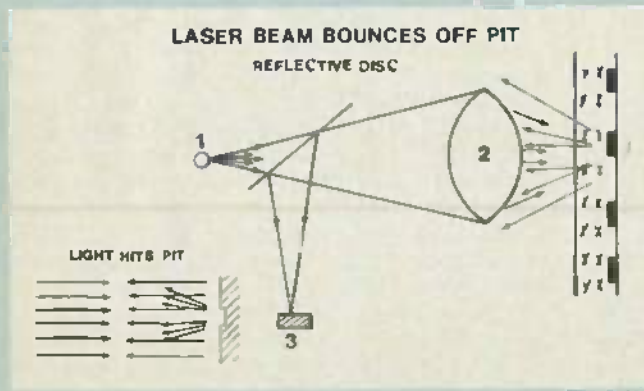

FIG. 5—THE LIGHT FROM THE LASER goes through the lens, is reflected by the disc back through the lens, and is picked up by a photodetector.
As Fig. 5 shows, the laser (1) travels through the lens (2) and is reflected off the disc back through the lens (2) and out into the photodetectors (3). The actual system has a more complicated path than shown: the beam is reflected by a series of mirrors before it strikes the disc.